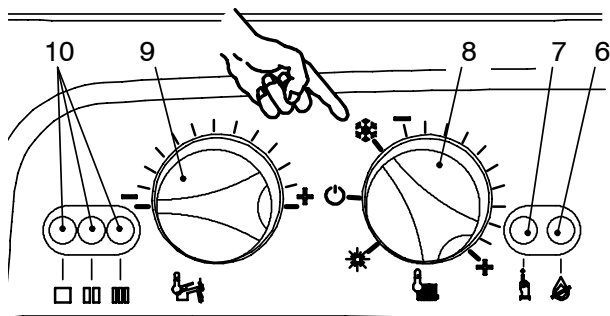

Fig. 7.9
- 9 Make a note of the position of the knob 9 and recorded this in Fig. 7.9 below with an \*.
- 10 Turn the boiler OFF and ON positioning the function selector 8 as indicated in Fig. 7.9